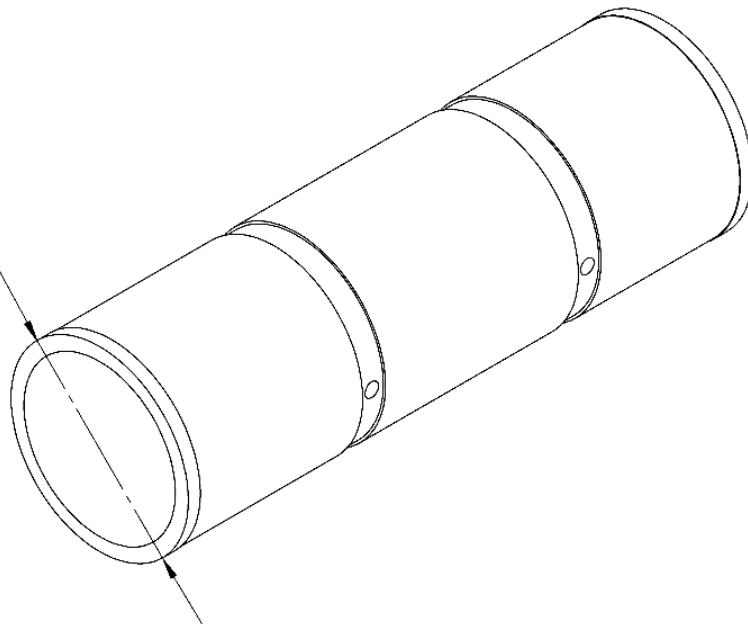

Figure 18 Liquid Displacer Measurements
1. **Clean** the liquid displacers (see **Figure 18 below**) and **use** the micrometer to **measure** the outside diameters of each displacer end.